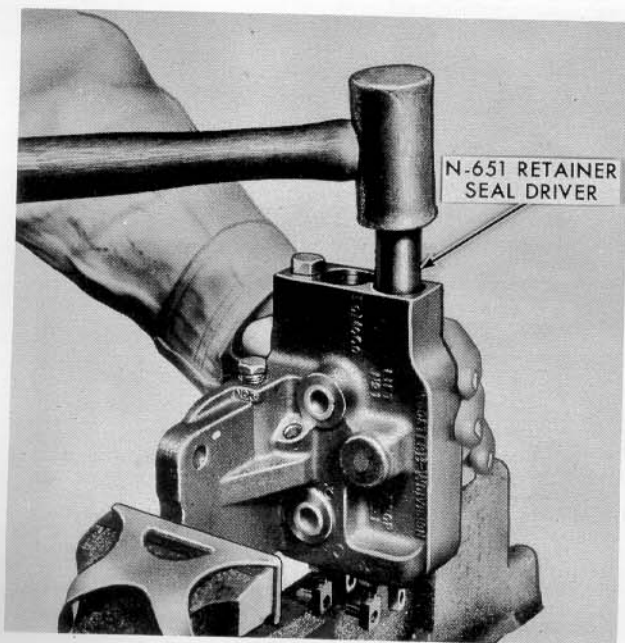

Figure 11
5. Lubricate and install the front "O" ring(s) and metal seal retainer(s) with an N-651 Retainer Seal Driver, Figure 11.